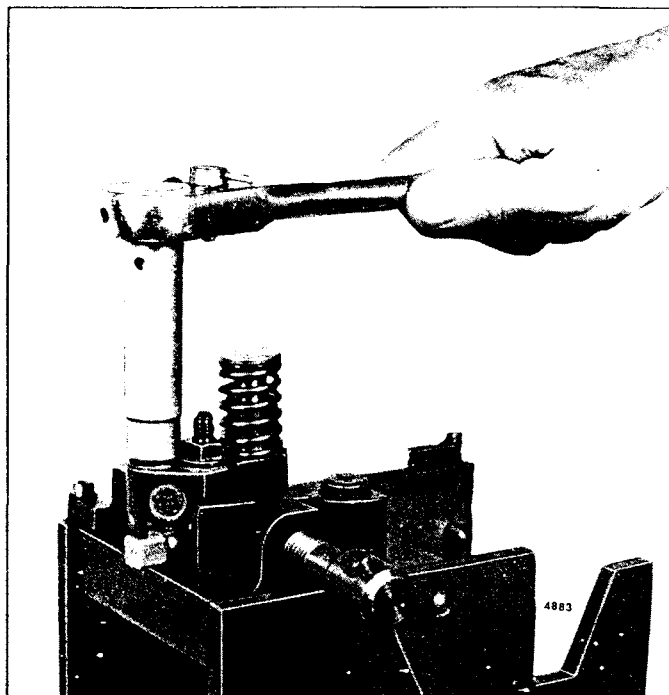

Fig. 8 – Removing Filter Cap
1. Support the injector upright in injector holding fixture J 22396 (Fig. 8) and remove the filter caps, gaskets and filters.